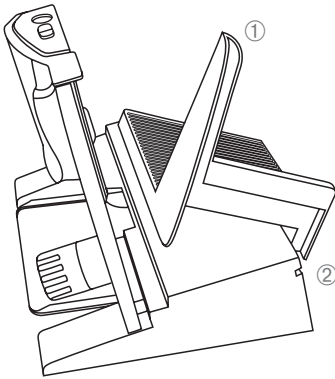

Figure 1
2. Tilt the sliding food guide at approximately 45° angle ① and place the guide in the grooves of the base ②. Lower the carriage onto the base. See Figure 1.